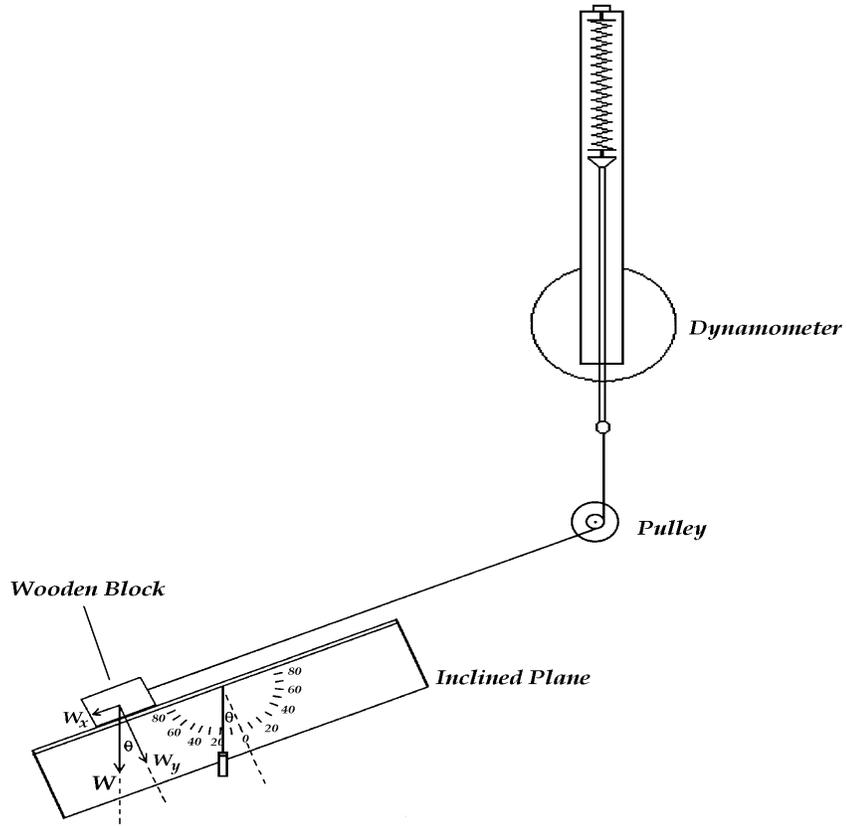

Figure 6. The experimental board with the inclined plane, block, and dynamometer
The objective of this part of the experiment is to calculate the value of the coefficient of static friction when a block of wood rests on ramp. The exact same analysis that was discussed above theoretically is followed. your experimental setup is illustrated in Figure 6 below. A minor change you should take care of is that in the experimental approach, the tensional force T is replaced by a force F_d from the dynamometer. Therefore,
- 2) **Setup the equipment** with inclined plane, angular plate, pulley, wooden block and spring balance as shown in Figure 6. Note that in this Figure the x axis is selected along the incline, therefore you have to make sure that the string is parallel to the inclined plane.